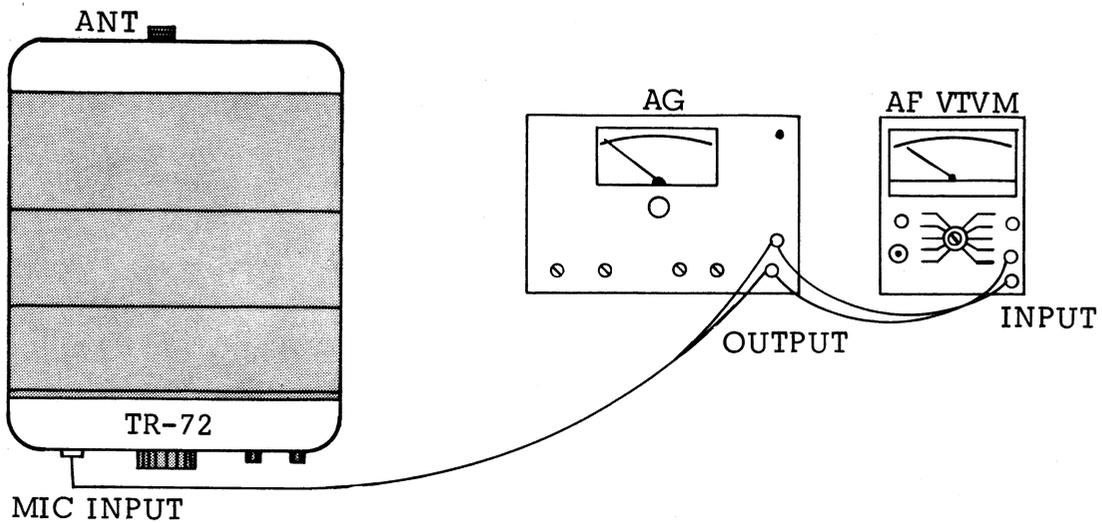

Figure 5-5. Connections for Modulation Adjustment
- b. Make connections shown in figure 5-5.